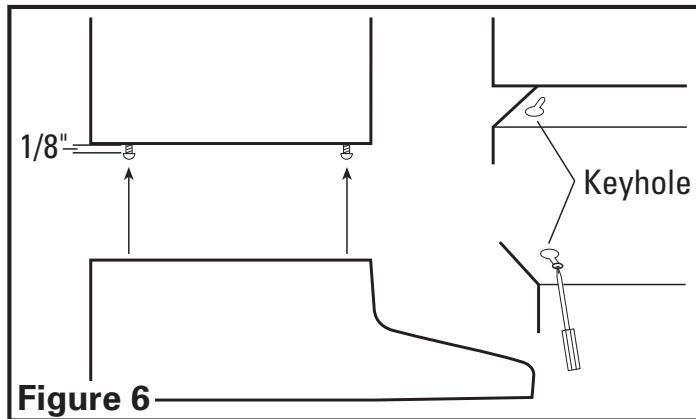

Figure 6
4. Install the 4 mounting screw at the previously marked locations. Leave approximately 1/8" clearance. Slide the hood in place through the keyhole slots and align the front of the hood so that it is flush with the front of the cabinets. Tighten all screws securely (Figure 6).